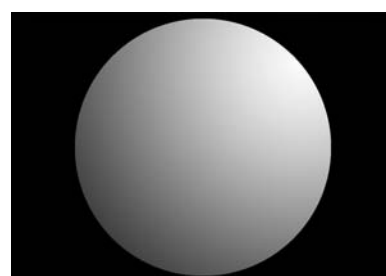

Figure 39
29. Look through the eyepieces and you should see a white field of view. You may have to adjust the variable lighting control in case the light is too dim or too bright. If the brightest portion of the field of view isn't centered (figure 39) you will need to perform the following instructions.